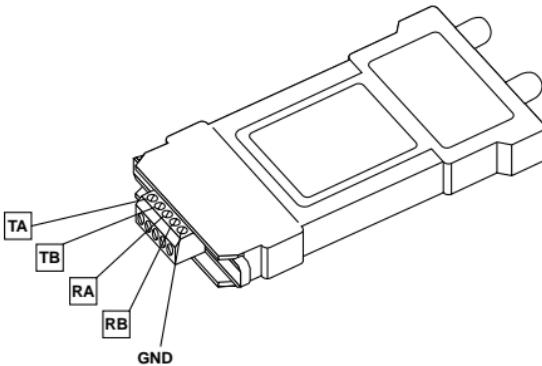

Figure 3-3. Rear panel of Modem with terminal block.
- 6a. Connect the wires according to **Figure 3-3**.
- 6b. Connect the wires according to **Figure 3-3**.
- 6c. Connect the wires according to **Figure 3-3**.
10. Connect the 4-wire or 2-wire UTP or STP line to the clip-screw terminal block (see **Figure 3-3**).